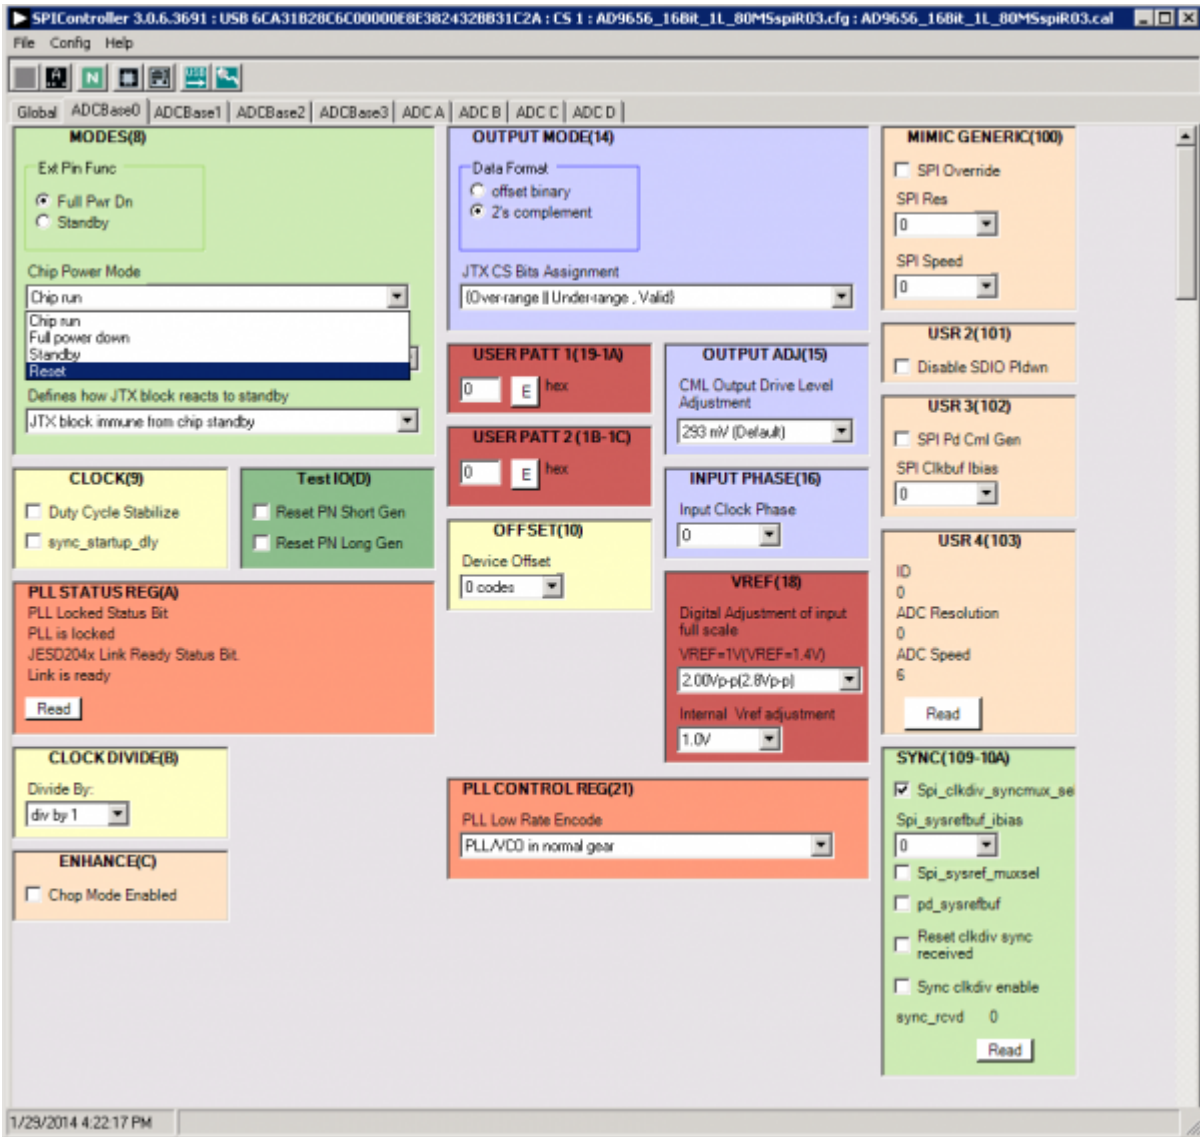

Figure 14. SPI Controller, Chip Power Mode - Digital Reset Selection
- In the **ADCBase0** tab of the **SPIController** window, find the **CLOCK DIVIDE(B)** box (see Figure 13), and the **MODES(8)** box (see Figure 14). If using the clock divider, use the drop-down box to select the correct clock divide ratio, if necessary. If there is any interruption of the ADC clock during power-up or during operation, a Digital Reset may be needed to re-initialize the ADC (Figure 14). For additional information, refer to the data sheet, the AN-878 Application Note, High Speed ADC SPI Control Software, and the AN-877 Application Note, Interfacing to High Speed ADCs via SPI.
6. Invoke a Digital Reset as shown in Figure 14 before testing. After selecting Reset, select Chip run to return to normal operation.
- If you see an abnormal noise floor, go to the **ADCBase0** tab of the **SPIController** window and toggle the **Chip Power Mode** in **MODES(8)** from **Chip Run** to **Reset** and back (Figure 14).